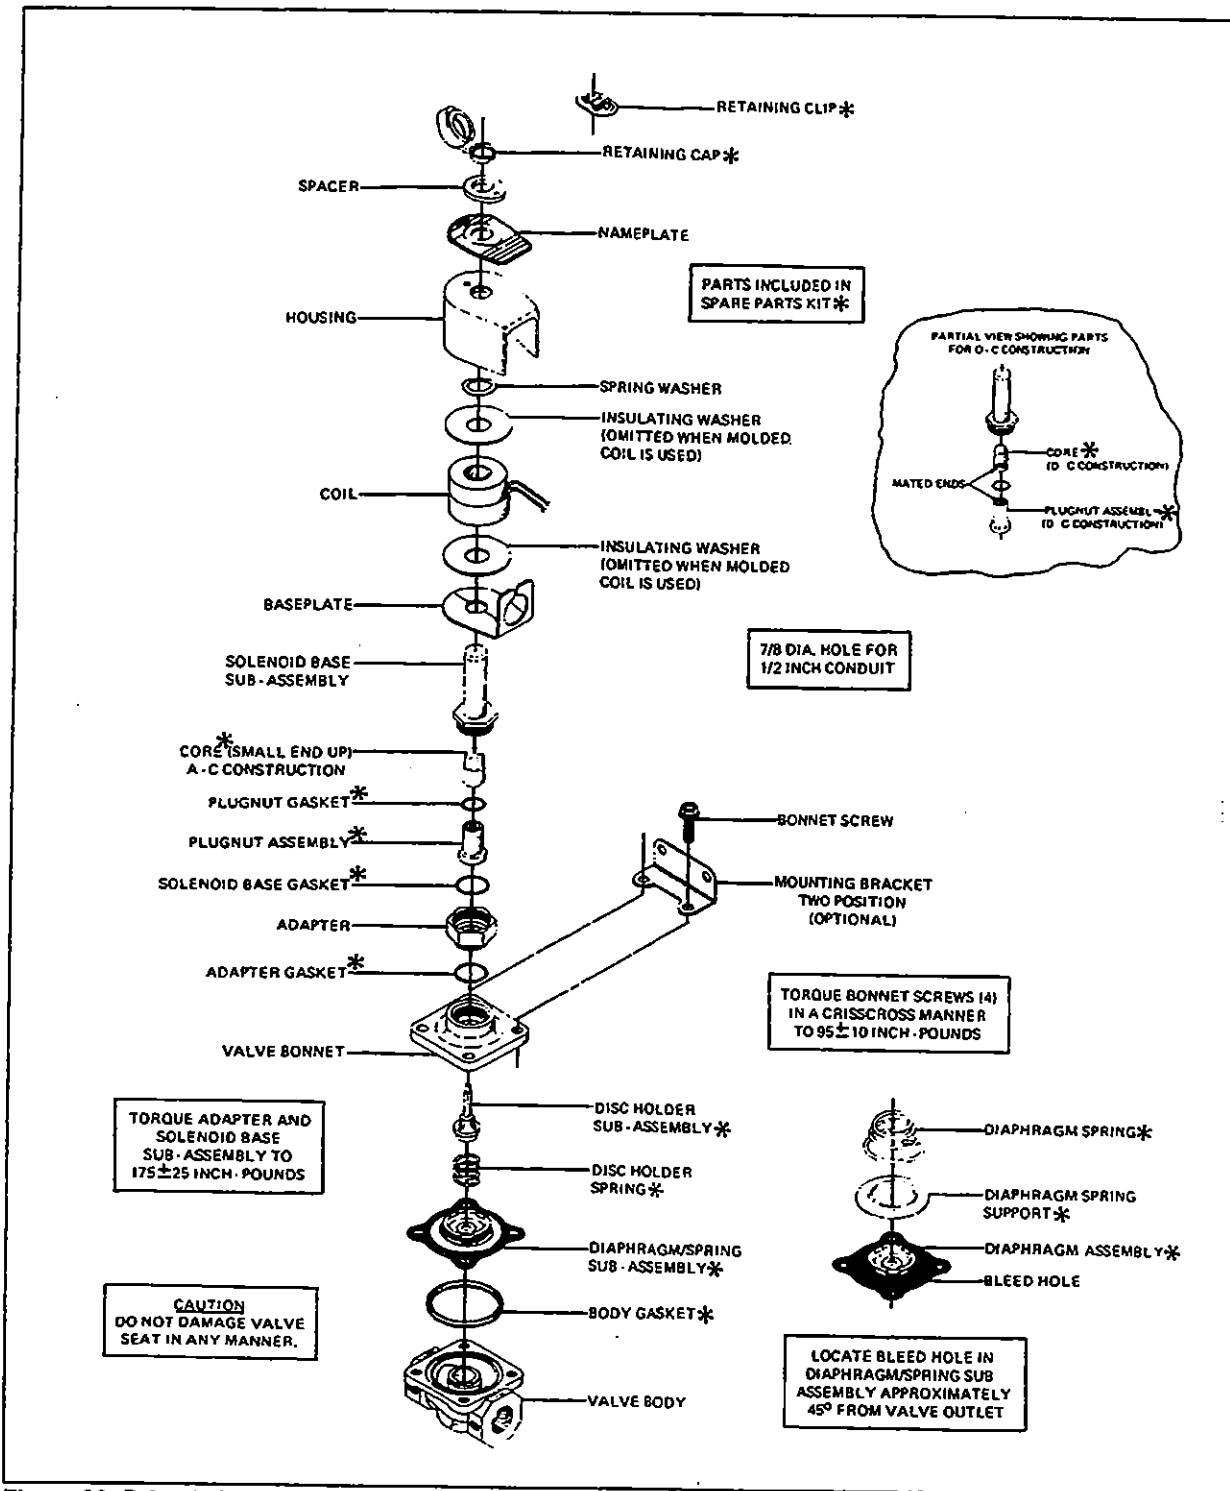

Figure 33: Driver's Water Solenoid Valve
3. Coil is now accessible for replacement. Reassemble by reversing sequence of disassembly. Refer to exploded view (Fig. 33) for identification and location of parts.
3. Disassemble valve in an orderly fashion paying careful attention to exploded view (Fig. 33) provided for identification of parts.
1. Reassemble in reverse order of disassembly paying careful attention to exploded view provided for identification and placement of parts (Fig. 33).